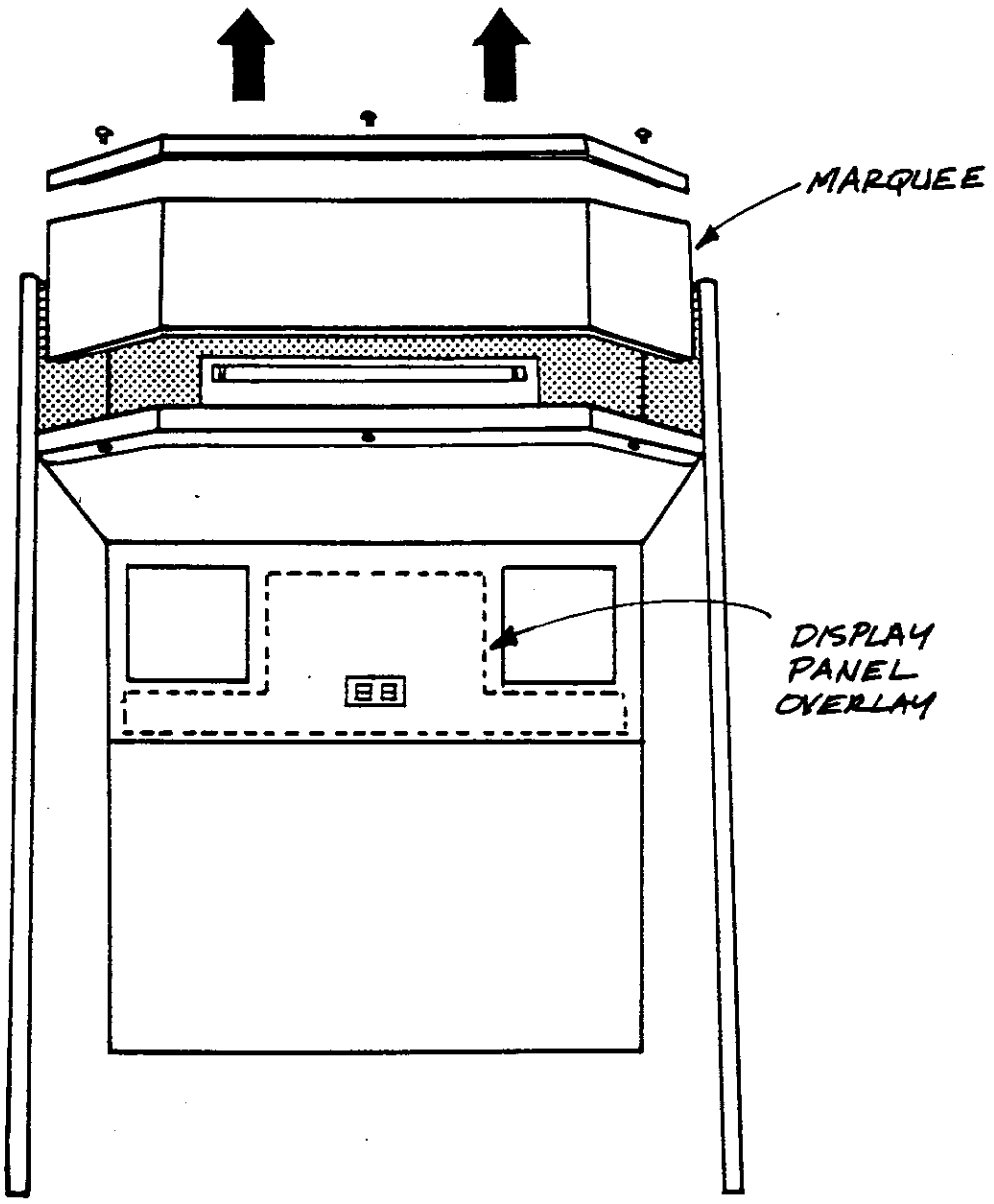

FIGURE 7
2. The display panel overlay should be positioned to cover the entire display except for the two digits of "CREDIT". Peel off the backing and adhere the decal so that the credit digits are visible through the "TIME" window as depicted in Figure 7.
1. Refer to Figure 7 as you remove the three screws which fix the top marquee retainer strip to the cabinet.